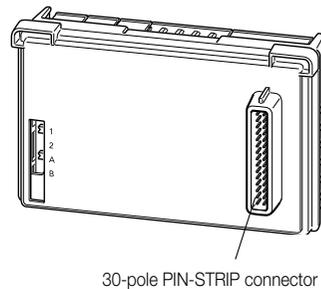

Figure 6
- **30-pole PIN-STRIP connector:** connector on the monitor side for hooking up the interface module for CCTV 01964 with the monitor 20550 (fig. 6).